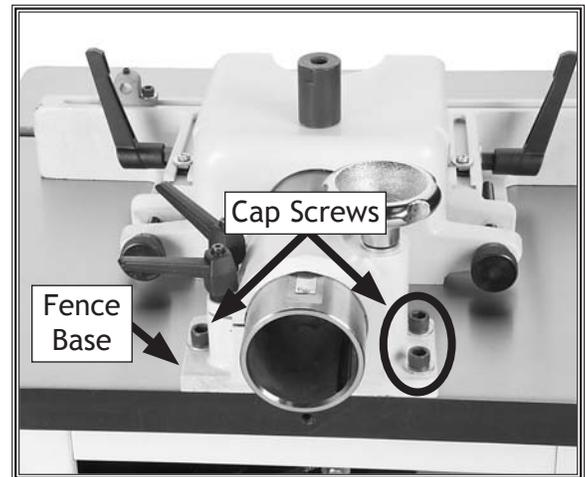

Figure 15. Fence assembly installed.
4. Make sure the mounting surface of the fence assembly and the table top are thoroughly clean, then position the assembly on the table, as shown in **Figure 15**.